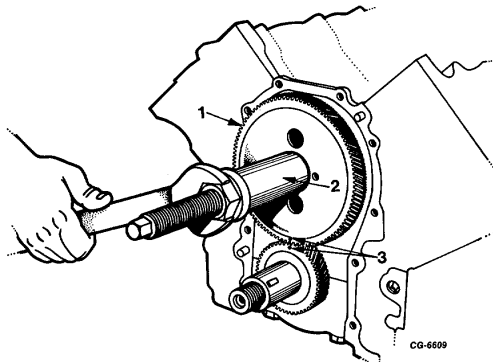

Fig. 147 Installing Camshaft Gear
Where desired, camshaft, thrust plate and camshaft gear can be installed individually. Using installer tool SE-1880, install camshaft in cylinder block (Figure 60). Install camshaft thrust flange and tighten bolts to specified torque. Using SE-1900 installer and SE-1900-2 adapter, install camshaft gear on camshaft (Figure 147).
17. Position oil pump in cylinder block and check for correct alignment. Pump shaft should rotate freely without binding (Figure 147).